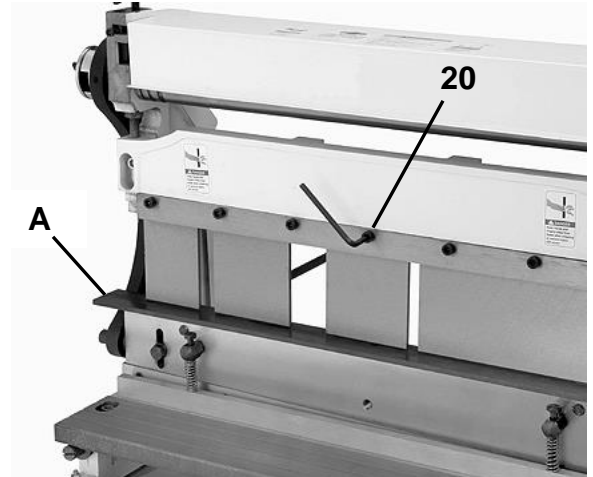

figure 12
3. Loosen, but do not remove, the six cap screws (**#20**) shown in fig 12.